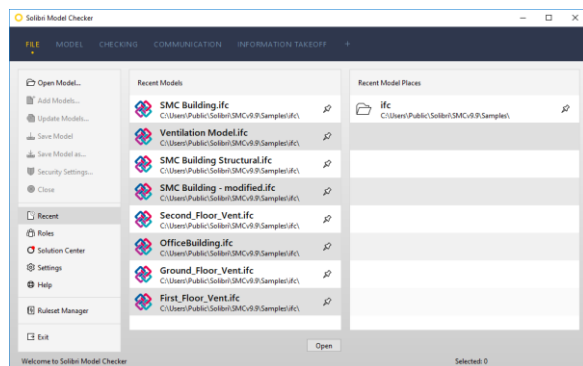

Figure 3: File Layout and Recent Files
- 1) The main window of SMC opens, and you see the **File Layout** (see Figure 3)